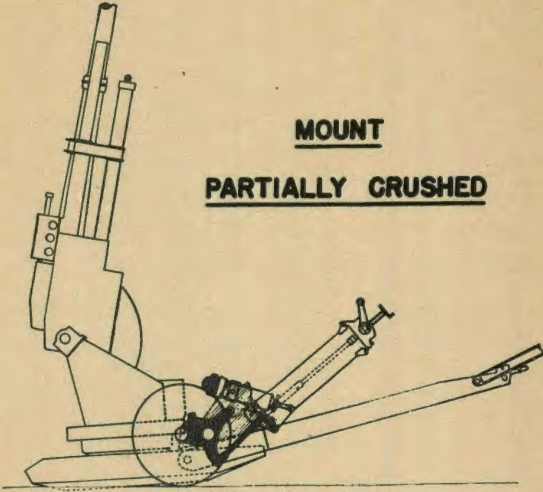

FIGURE 28.
c. With the counterpoise gear boxes engaged, the prime mover is uncoupled from the trail, the platforms removed from their brackets on the trail, the transom cap unfastened from the gun tube, and the tube elevated to maximum elevation (fig. 28). The tube is elevated at this point to transfer the preponderance of weight of the gun to the rear of the pedestal to facilitate lowering the trail. With the tube elevated, the mount is completely crushed by turning the cranks on the counterpoise cylinders in the direction of **BOGIE DOWN**, until the pedestal is resting firmly on the ground and none of the weight is supported by the bogie (fig. 29). The trail is then lowered from its upper position as shown in figure 29 to the lower position as shown in figure 30. To lower the trail (fig. 30), the bogie securing bolts are disengaged from the front of the bogie, the nuts on the engaging eye hook are loosened, the swing bolt from the trail lock